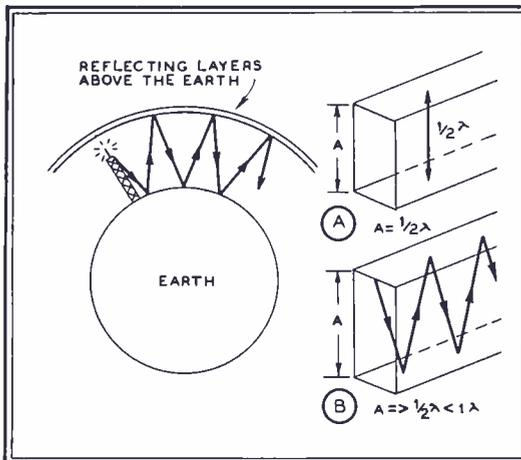

FIG. 10. SIMPLE WAVEGUIDE PRINCIPLES
3.2 Natural Waveguide Conditions ★ Fig. 10 illustrates nature's low-frequency waveguide as compared to a fabricated microwave waveguide. The analogy is identical except for the difference in consistency, magnitude of dimensions, and cutoff frequency.